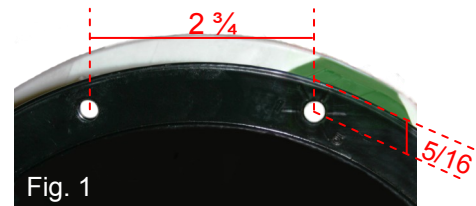

Fig. 1
- Step 5** Drill 9/32” hole in belt housing flange directly across from brush t-slot for adjusting lever or screwdriver access. (See Figure 1 for details)